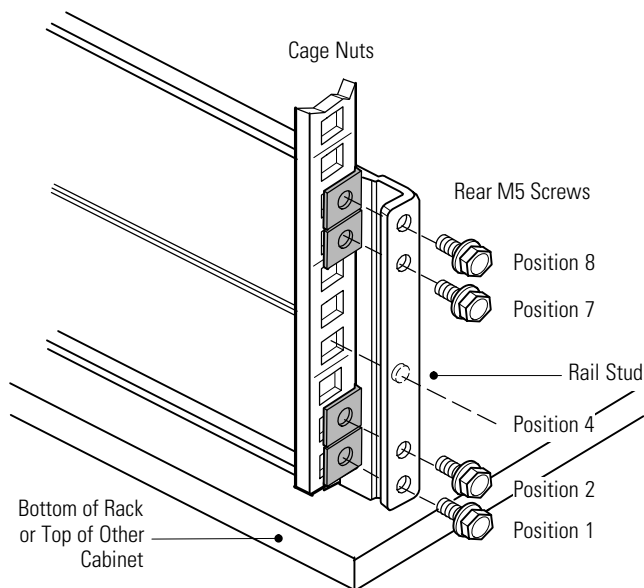

Figure 20. Securing the Rear Rail (Right Rail Assembly Shown)
- Secure the rail to the rear of the rack with four M5 machine screws and clip or cage nuts (see Figure 20).